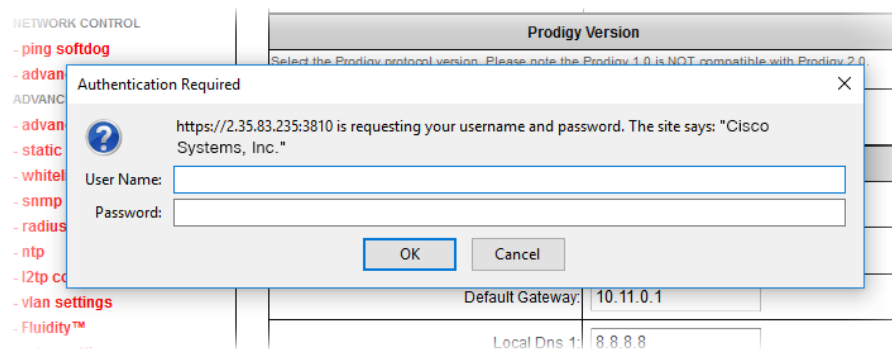

Figure 56. Web browser (Authentication Required dialog)
- The web browser will show the **Authentication Required** dialog (Figure 56 (page 105)). If needed, use the dialog to log in again.